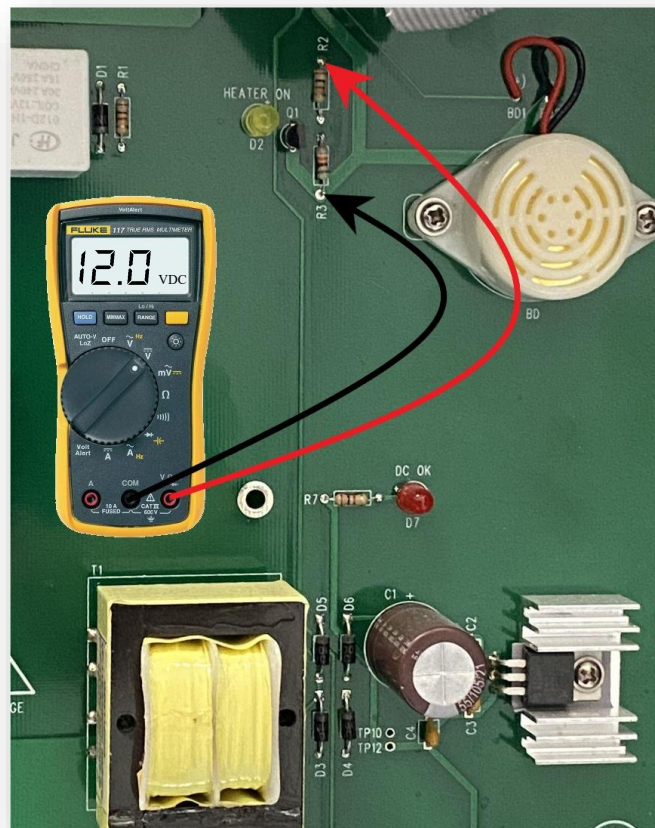

Figure 28 – Heater Control Signal
- a. Set the multimeter to DC Voltage  $\nabla$ . Check the voltage between resistor R2 (Heater Enable Signal) and R3 (DC Ground) (*See Figure 28*).